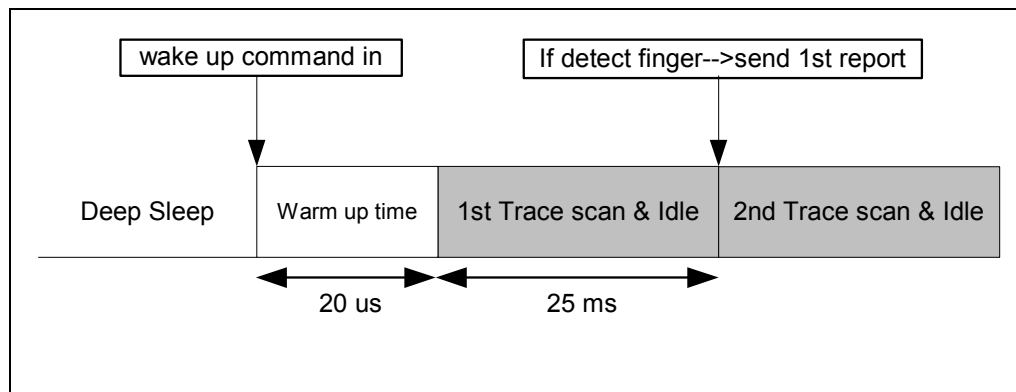

Fig. 7-2 Wake-up Timing from Deep Sleep Mode
B. Wake-up: Fig 7-2 below shows eKT8150 wake-up time from deep sleep mode.